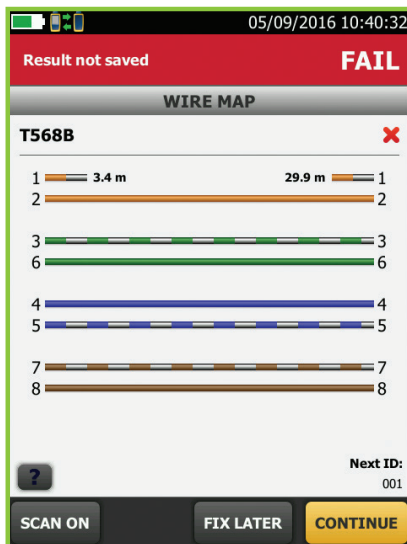

Figure 4
- Opens or shorts in the channel (Figure 4)